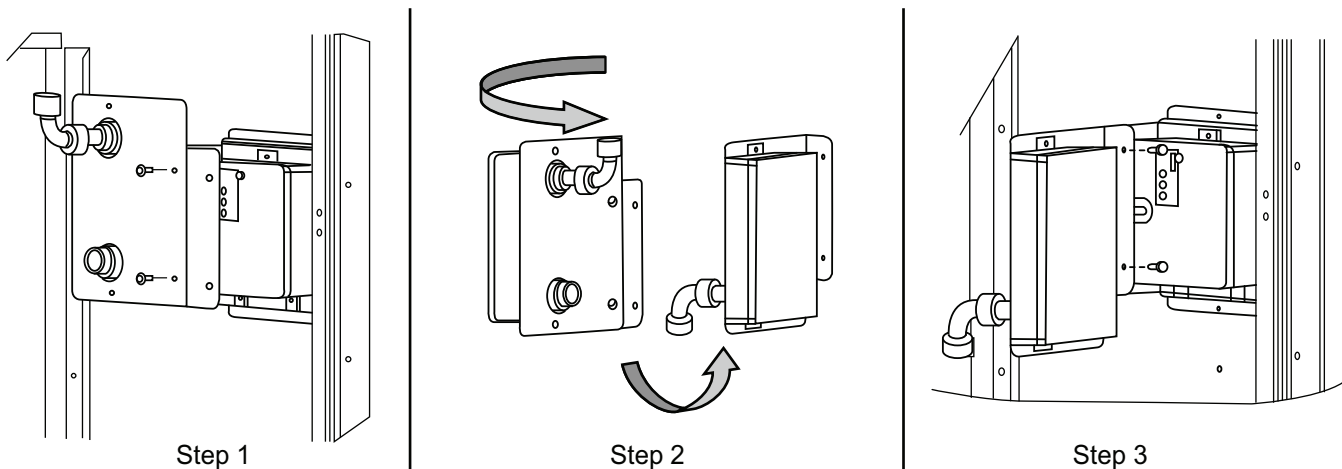

Fig. 50 — Completing Installation of Return-Air Smoke Sensor
1. Unscrew the two screws holding the return air smoke detector assembly. See Fig. 50, Step 1. Save the screws.
2. Turn the assembly 90 degrees and then rotate end to end. Make sure that the elbow fitting is pointing down. See Fig. 50, Step 2.
3. Screw the sensor and detector plate into its operating position using screws from Step 1. See Fig. 50, Step 3.